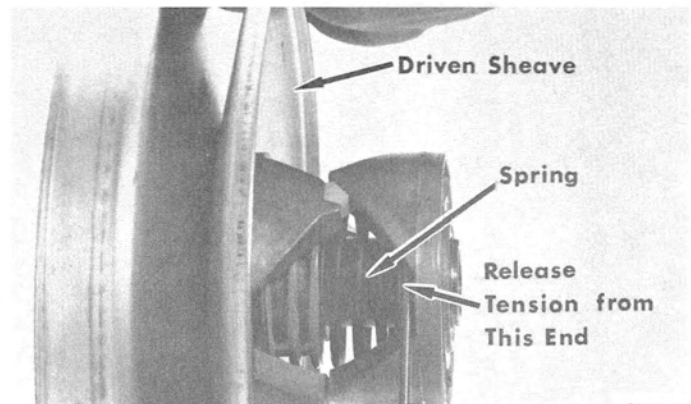

Figure 3. Releasing Tension on Sheave Springs
6. Release tension on sheave spring with a screwdriver inserted between torque bracket and sliding half of sheave. (Figure 3)